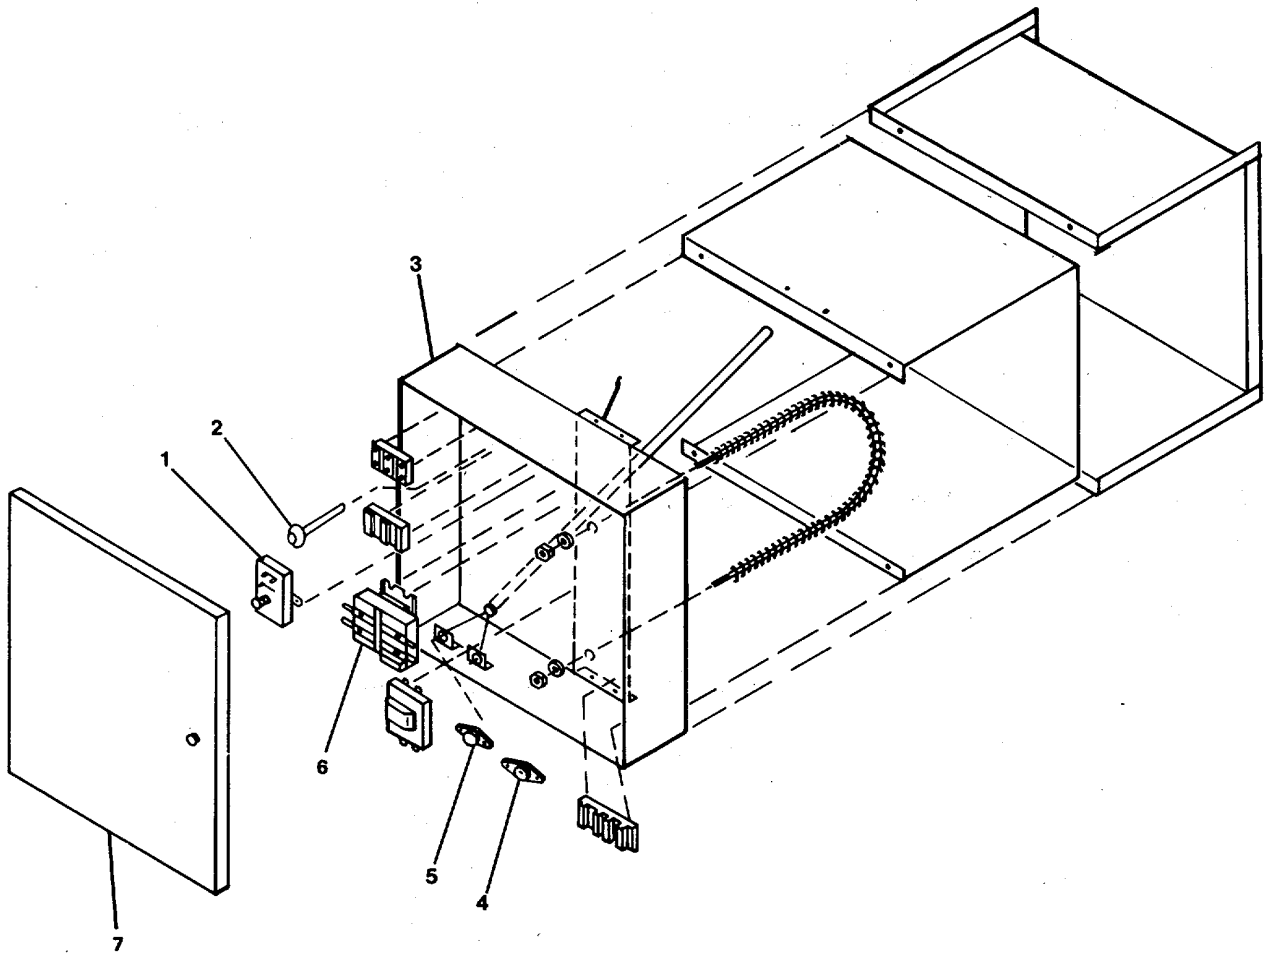

FIGURE 3-4 . Duct Heater (DH #4 thru #16).
- f. Close terminal box door (8).
- (1) Turn electrical power ON.
- (2) Start and run heater to check for proper operation.
- (3) Remove "Out of Service" tag from circuit.
**3-13. Repair Heater, Duct Type, Stationary (Duct #4, #5, #6, #7, #8, #9, #10, #11, #12, #12A, #13, #14, #15, #16). (FIGURE 3-4)**